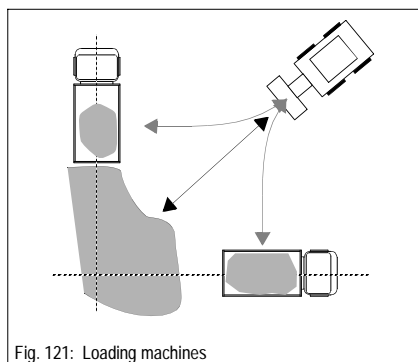

Fig. 121: Loading machines
- If possible, the lorry and the working direction of the machine should form an angle of 45° (figure 121)